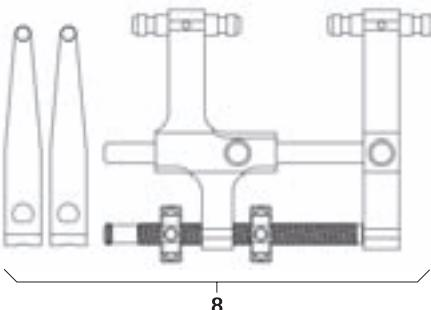

Fig. 14
- ▶ Mount distractor 8 with the distraction blades, see Fig. 14.